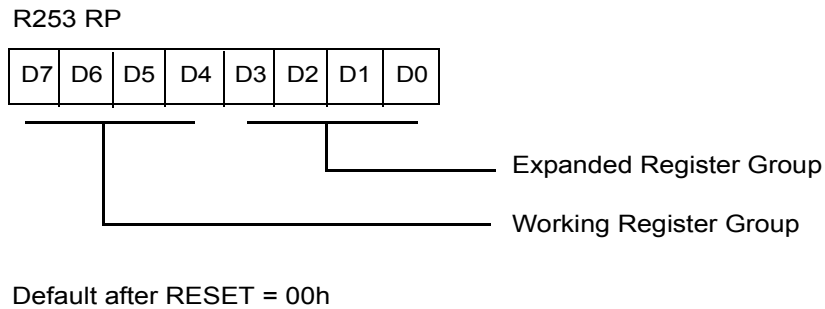

**Figure 24. Register Pointer Register**
**Register File.** The register file consists of three I/O port registers, 236/125 general-purpose registers, 15 control and status registers, and three system configuration registers in the expanded register group. The instructions can access registers directly or indirectly through an 8-bit address field. This allows a short 4-bit register address using the Register Pointer (see Figure 24). In the 4-bit mode, the register file is divided into 16 working register groups, each occupying 16 continuous locations. The Register Pointer addresses the starting location of the active working-register group.